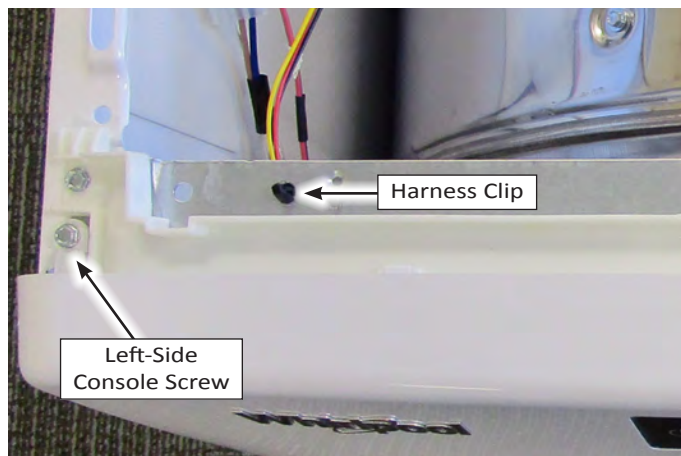

Figure 2 - Remove console screws and harness clip.
4. Detach one harness clip from the console bracket (see Figure 2).
5. Using a 1/4" nut driver, remove two (2) hex-head screws, one on each side of the console top as shown in Figure 2.